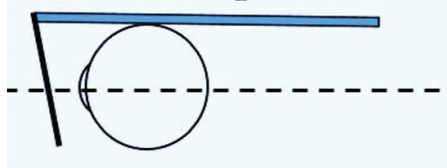

FIG. 23
**Pantoscopic tilt:** When frames are angled so that the bottom of the lens sits closer to the face, this is called pantoscopic tilt. Pantoscopic tilt is the angle formed by the lens tilt in the vertical plane relative to the patient's visual axis when worn. Pantoscopic tilt is a position of wear measurement that affects how the lens is positioned in front of the patient's visual axis in the primary gaze position (Fig. 23). The pantoscopic tilt changes the sphere power and introduces cylinder power at 180 degrees in this scenario. We learn about pantoscopic tilt when learning about Martin's Rule of tilt in basic optics. We know that pantoscopic tilt effectively shifts/raises the OC of the